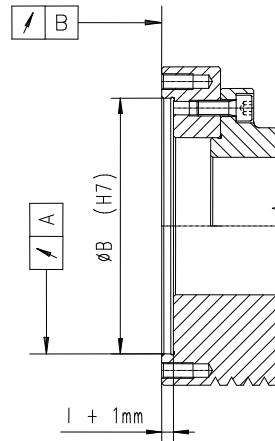

Fig. 2
5.2. To enable cylinder's rotation with high speed and with minimal moment of inertia, the cylinder should be installed exactly in the axis of rotation of the spindle and as close to the rear end of the spindle as possible. Prior to installation of the cylinder it is necessary to check, if the base surfaces of the dog, where the cylinder will be installed, are finished according to accuracy criteria shown in the Table 3 and on the Fig. 2.